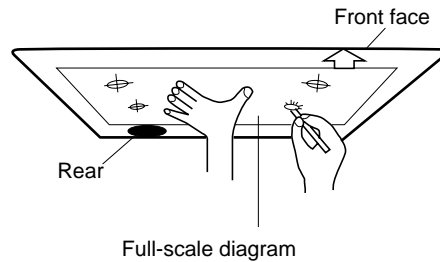

Fig. 3-64
- (1) Place the full-scale diagram (supplied) on the ceiling at the spot where you want to install the indoor unit. Use a pencil to mark the drill holes. (Fig. 3-64).